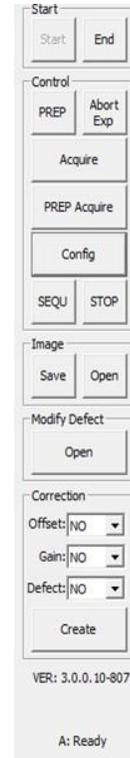

Figure 15
- IV. Correction section on right side **Figure 15**